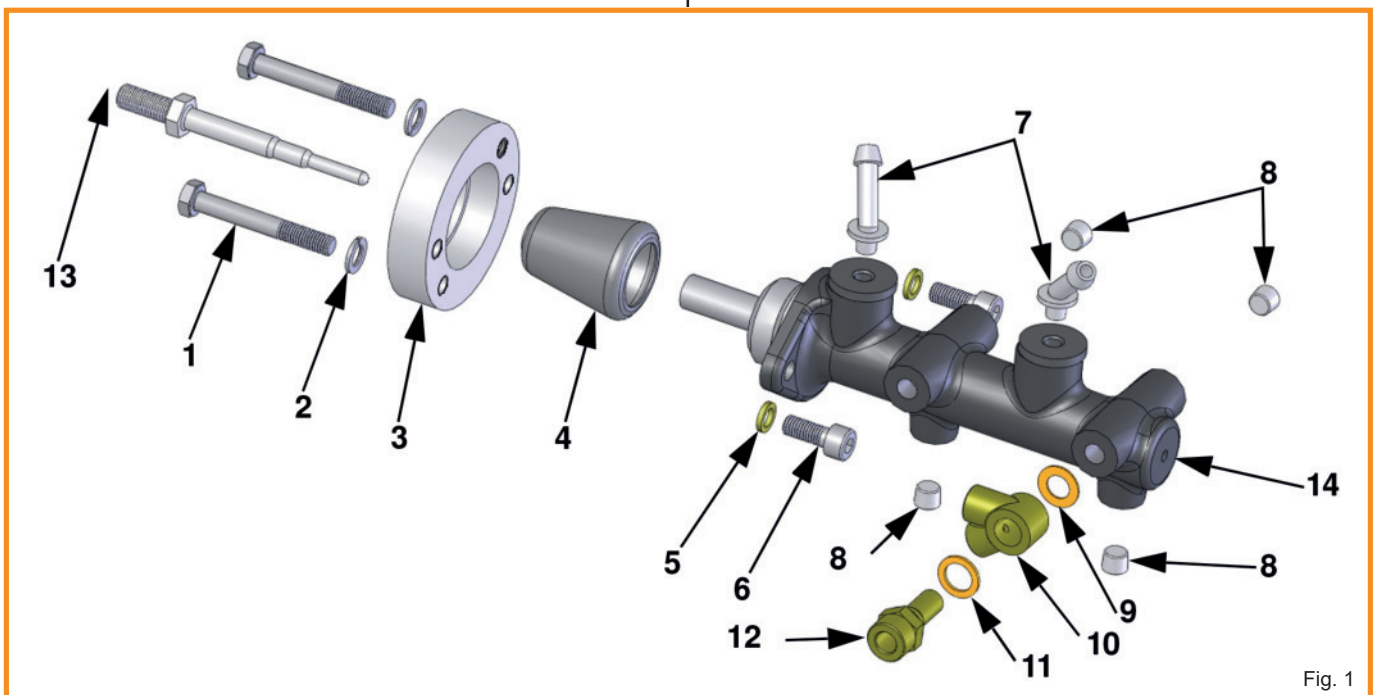

Fig. 1
- Put some brake fluid on the outside of the plastic elbow connectors (Pos.7, Fig.1), then push them into the rubber grommets of the master cylinder.